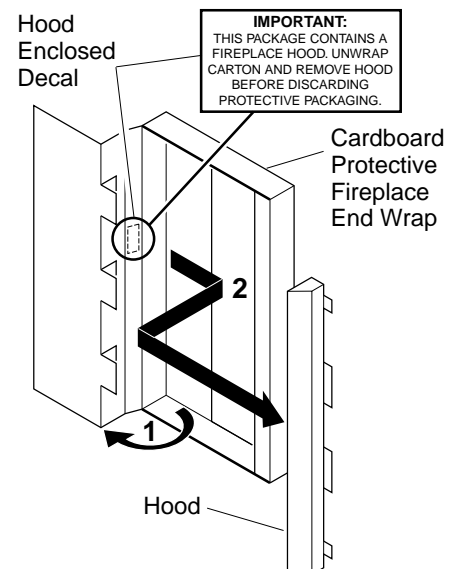

Figure 2 - Removing Fireplace Hood
IMPORTANT: The fireplace hood is inside the cardboard protective end wrap on the left side of fireplace (as viewed from front). A decal on the outside of the cardboard end wrap stating hood is enclosed (see Figure 2).
2. Remove hood from cardboard protective end wrap as shown in Figure 2.